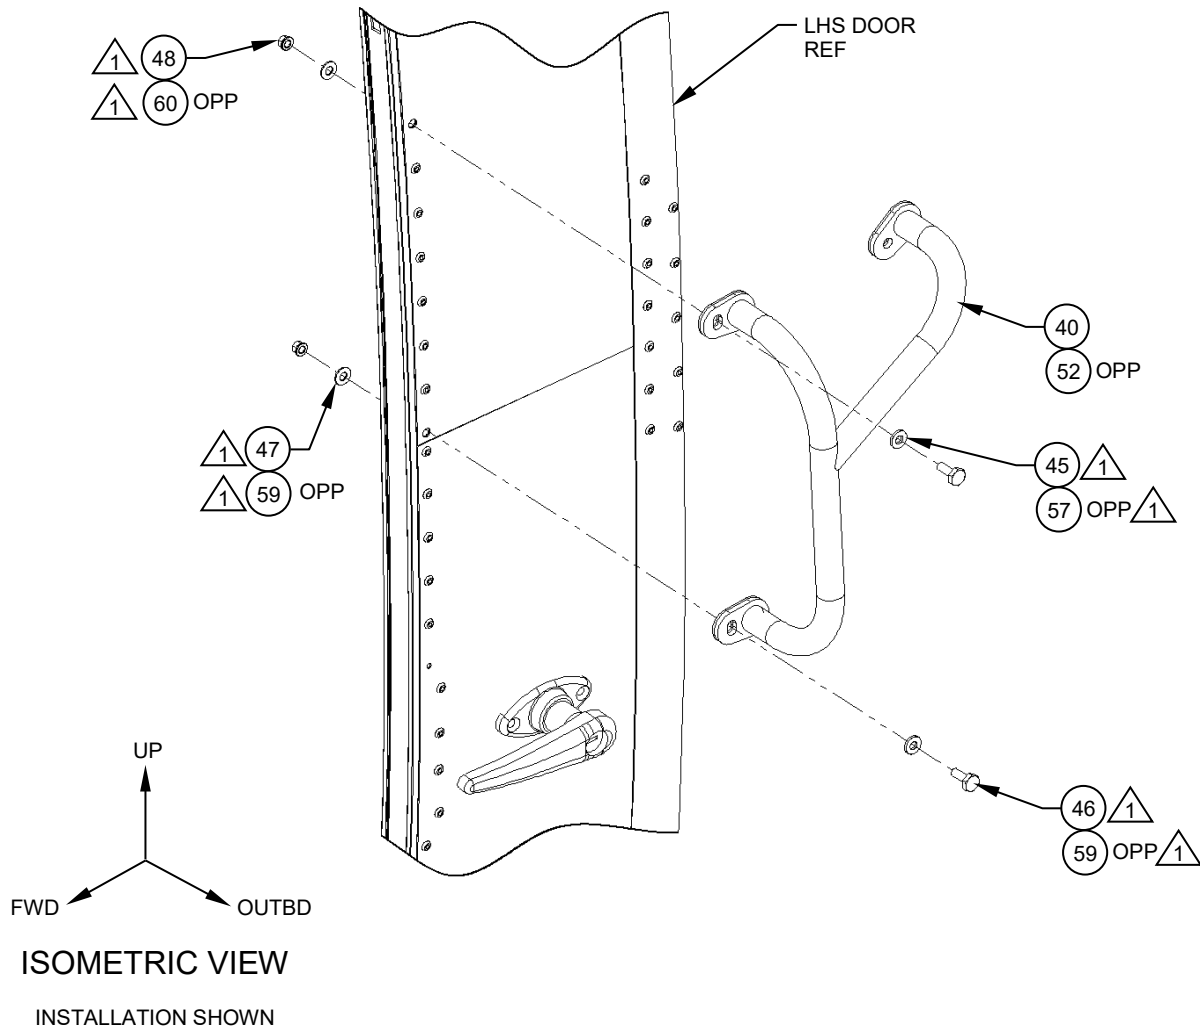

Figure 21
3. Temporarily install the Handle, Assy, LHS/RHS AFT (Item 40, 52 OPP) using the supplied hardware in the holes that were drilled out. Use this to scribe a center mark for the third foot. Transfer the location of the third hole through the existing hole in the third foot. Reference Figure 21.